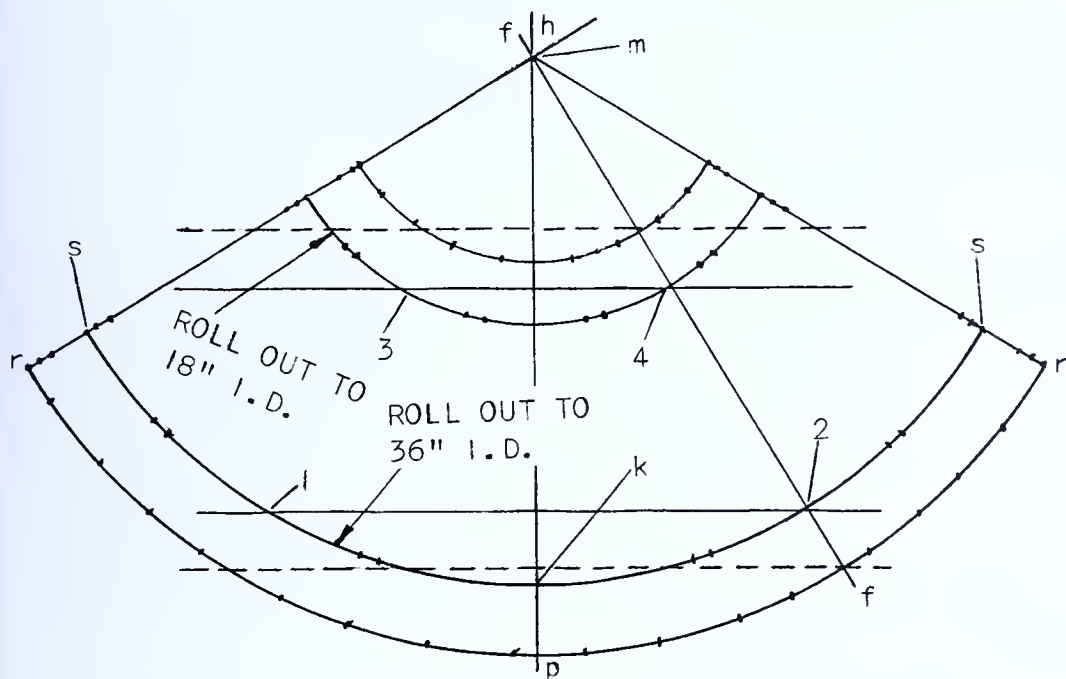

FIG. 291 — Developing the Cone Layout
The trammels are set with one point at  $m$  and the other point at 2 on line  $a-b$ , and an arc is scribed as shown in Fig. 291. Repeat this at points 1, 3, and 4 using the same center  $m$ .
This distance must be laid off on line  $r-r$  Fig. 291. It is necessary to lay off only half this distance since both sides of the template are the same.
thumb clamps. The center punch and the hammer are used to center-punch mark through the template and onto the steel plate as shown in Fig. 291.
The single punch marks about 3" apart indicate that the plate is to be burned on that line. The double punch marks about 6" apart indicate that the steel is to be flanged on that line. The triple punch marks close to the arc intersections indicate that the steel is to be planed and beveled for welding on that line. The plate is marked with white paint: **TO BE ROLLED OUT TO THE INSIDE DIAMETERS**. This marking is shown in Fig. 291 as follows:
11. Set one leg of the trammels in the apex of the cone, and set the other leg on the lower tangent line at the intersection with the side of the cone. Scribe an arc from one side of the template to the other. This arc is the base circle of the cone. See Fig. 291, "Developing the Cone Layout".
15. With the straightedge, scribe a line through each of the marks on the base circle and the apex of the cone. See Fig. 291.
4. Where is the measurement found for the length of the arcs in Fig. 291?